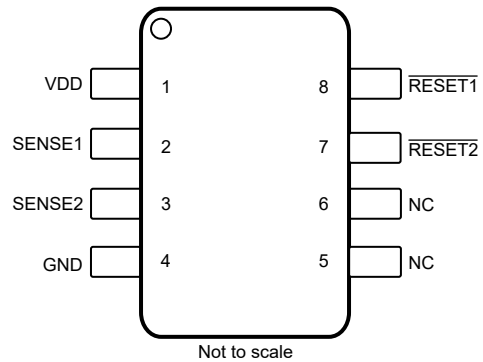

**Figure 4-1. Device Naming Convention**
Figure 4-1 shows the device naming nomenclature to compare the different device variants. See Table 9-1 for a more detailed explanation. See Table 4-1 or Table 9-2 for the available device variants.
- (2) VIT threshold of 0.8V and 0.4V signifies an adjustable channel
- (3) ADJ denotes an adjustable voltage threshold set by an external resistor divider, see Adjustable Voltage Thresholds for more information
- (4) Output type "L" designates Push Pull Active Low and "O" designates Open Drain Active Low. Reference Figure 4-1 for more information